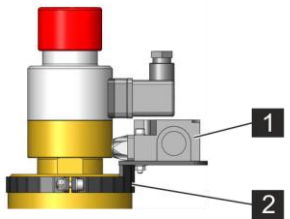

Fig. 101: Mounting the switch
2. ➔ Attach the switch (Fig. 101/1) with the screws, washers (4 pcs) and nuts to the clamp (Fig. 101/2). (Do not tighten the screws yet.)